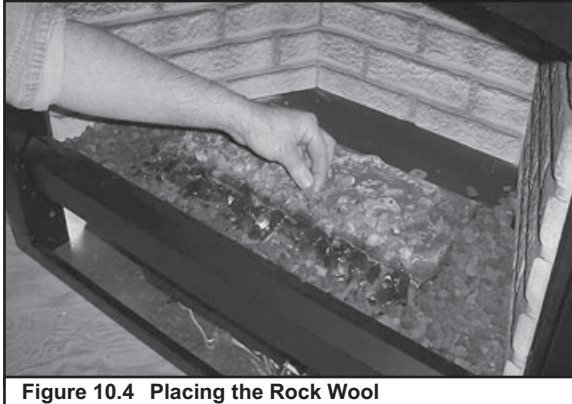

Figure 10.4 Placing the Rock Wool
- Place a small amount of 1/2 in. diameter pieces (dime-size) of rock wool on the burner pan so the rock wool touches but does not cover the holes in the burner pan. This will provide the "glowing embers" look. It is not necessary to use the entire bag. Save the remaining amount for future use. See Figure 10.4.